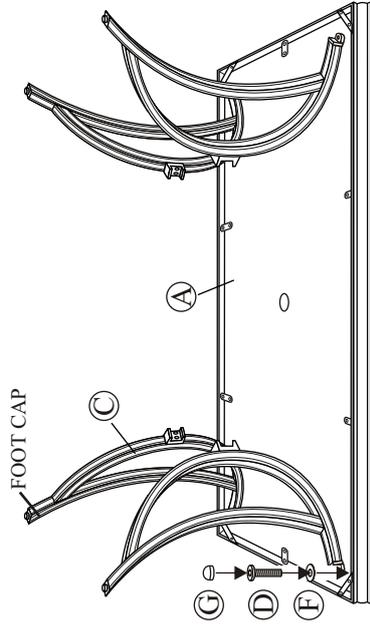
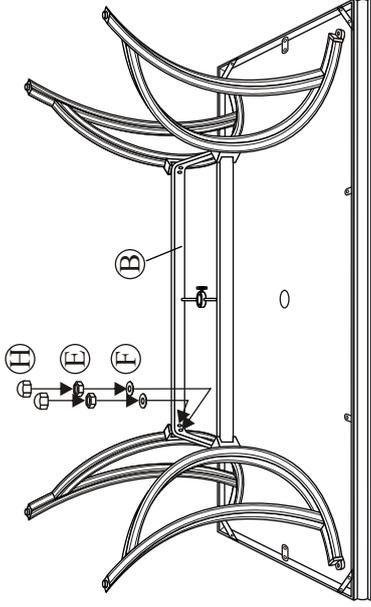

Fig.1
Fig.2
Step 3: Important: We recommend 2 people work together to assemble the chair. Note the arrow labels on the "U" bar and the rocker assembly. Also note the horseshoe shape of the rocker plate. Point the open end of the horseshoe away from you. The arrows on the rocker assembly should be pointing towards you. Set the chair frame on the rocker assembly with front of the seat facing you and the arrows on the "U" bar pointing towards you as shown in *Figure 1*. This is very important for a safe, balanced rocking motion. **If chair frame has been properly positioned on the rocker assembly, all arrows on the "U" bar and rocker assembly will be pointing in the same direction.**
Step 4: Critical Step: The "U" metal plates must be installed in the proper location. Read this step and carefully examine. Insert the "U" metal plate, so that the "U" bar and rocker plate are between both sides of the "U" metal plate. Make sure that the holes in the "U" metal plate are completely aligned with the holes in the "U" bar as shown in *Figure 1*. Guide the bolts through the holes on the top side of the "U" metal plate, through the holes in the "U" bar portion of the chair, through the holes in the rocker plate and then, most importantly, through the holes in the bottom side of the "U" metal plate. It is very important that the holes in the bottom portion of the "U" metal plate be placed directly beneath the holes in the rocker plate. Add a spring washer and a nut to each bolt as shown in *Figure 2*. **Hand tighten nuts 3-4 revolutions only.** Repeat the same procedure on the other side.
Step 2: Place the table top upside down on a flat, non-abrasive surface. Attach a table leg to the table top by using the bolt and washer as shown in **Fig.1**. Place the leg beneath the table top corner bracket. Guide the bolt through the hole in the table top corner bracket and into the pre-drilled hole in the table leg. **Hand tighten only 3-4 revolutions only. Do not tighten completely.** Repeat for the other three legs.
Step3: Attach a leg to the leg connector bracket by carefully guiding the bolts already in place on the table legs (each leg has two bolts) through the holes in the leg connector bracket. Add a washer and a nut to the end of each bolt as shown in **Fig.2**. **Hand tighten only. Do not tighten completely.** Repeat on the other three legs.